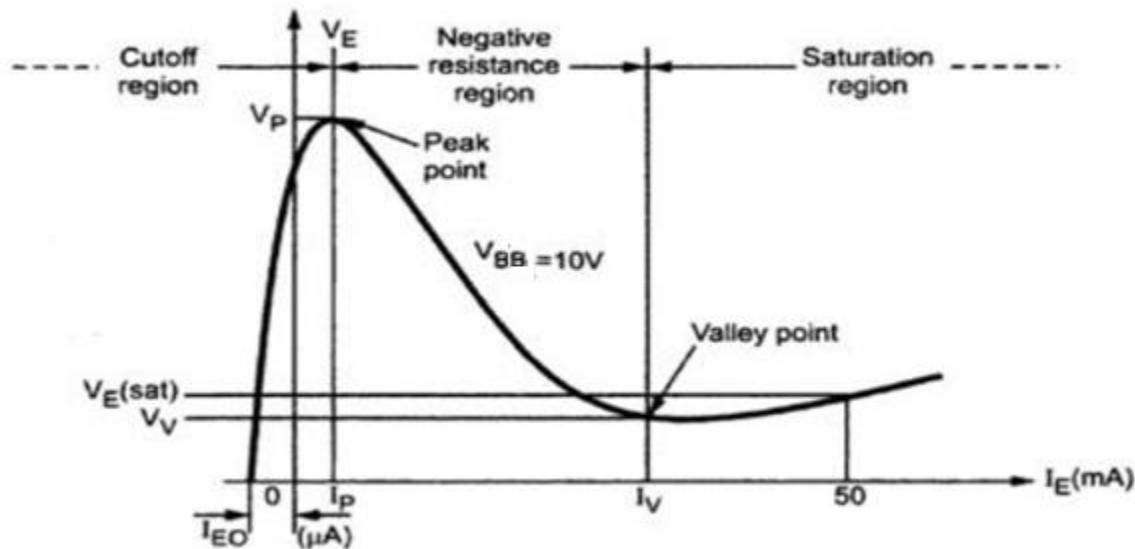

Fig. 5.24 Characteristics of UJT
- For a particular fixed value of  $V_{BB}$  such characteristics is shown in the Fig. 5.24.